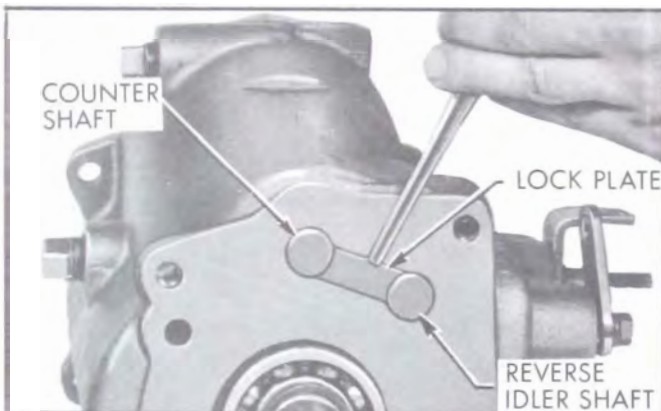

Figure 4-16—Removing Lock Plate
5. Drive countershaft and reverse idler shaft lock plate from position. See Figure 4-16.